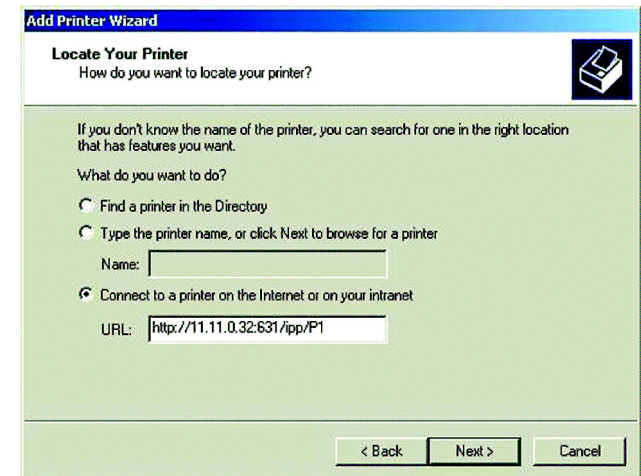

Figure 8-5: Locate Your Printer
2. Select **Network Printer** and click **Next** to see the *Locate your Printer* screen, as shown in Figure 8-5.